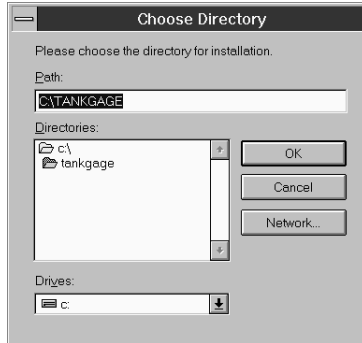

Figure 7. Choose Directory Screen
8. If directory other than the default (TANKGAGE) is desired, click on the **Browse** button to select a different directory in which to save the TLS-PC program files. The Choose Directory Screen appears [Figure 7].